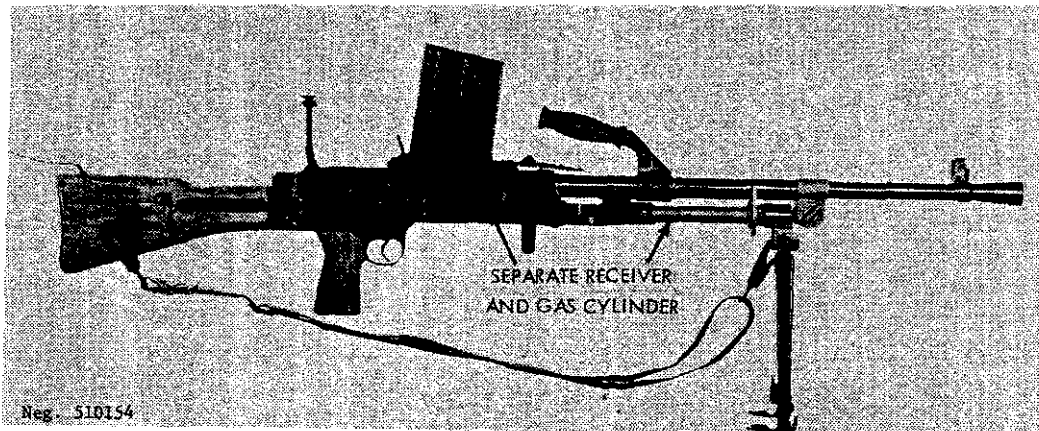

Figure 155. Nationalist Chinese Type 41 Bren.
d. The Nationalist Chinese produced a version of the Mark 2 Bren. Their gun, the Type 41 light machinegun, fires the US .30-caliber M1906 cartridge (7.62x63-mm) and is easily distinguished from the other Brens by its receiver with the separate gas-cylinder tube (fig 155). The original pattern Mark 1